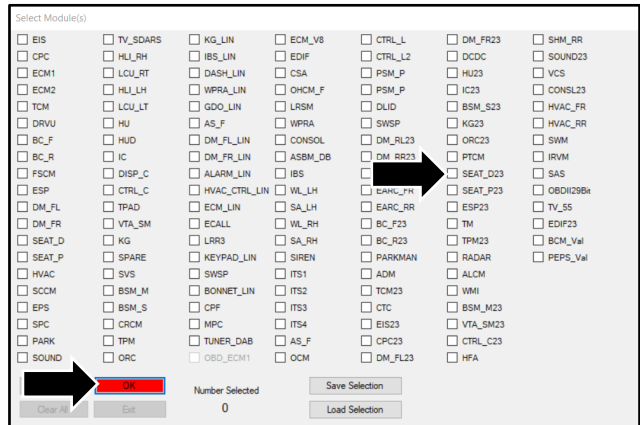

Figure 11
16. Select the “SEAT\_D23” module then click the “OK” button (refer to Figure 11).